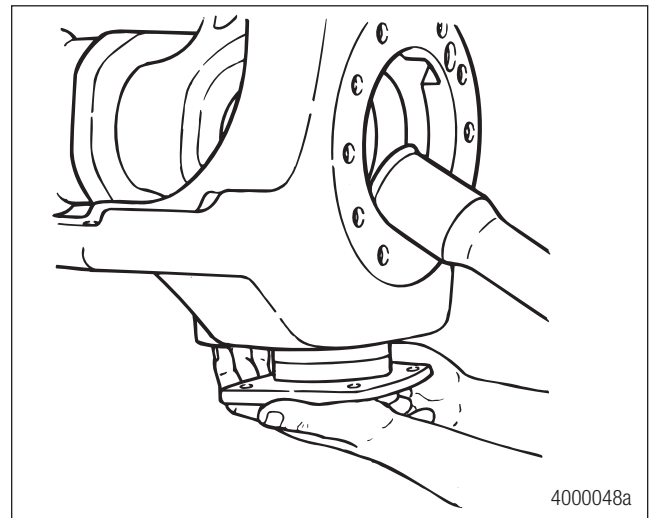

Figure 7.10
7. Position the lower cap assembly through the bottom bores of the knuckle and housing until the cap is against the knuckle. Figure 7.10.